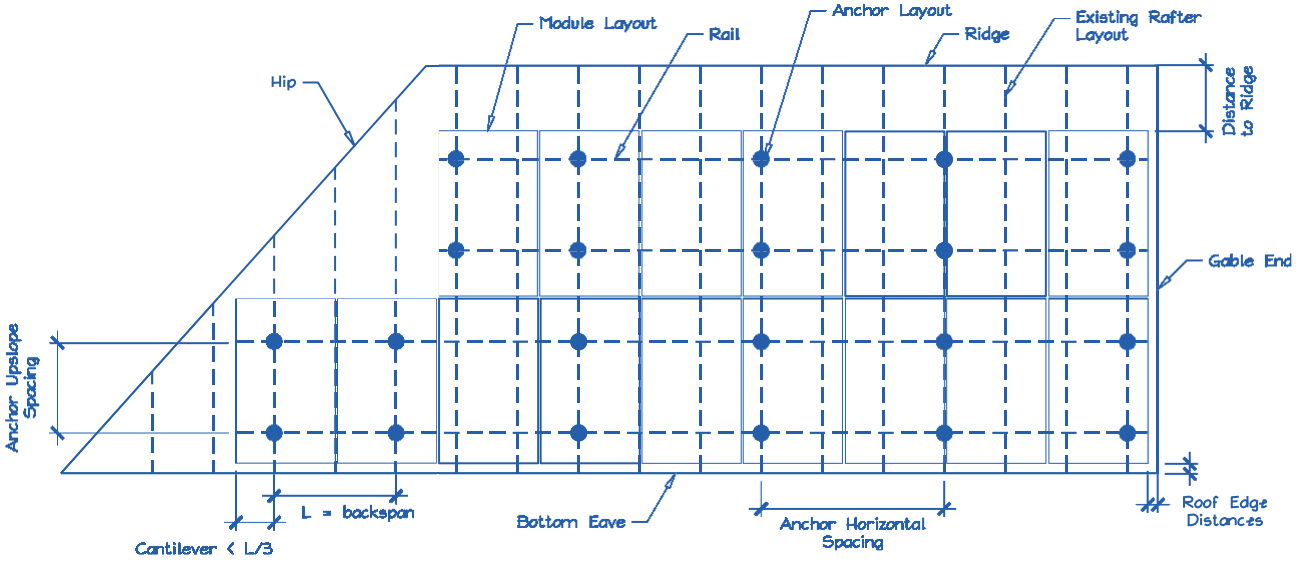

**Figure 1. Roof Visual Structural Review (Contractor’s Site Audit) of Existing Conditions.**
2. Does the roof structure appear structurally sound, without signs of alterations or significant structural deterioration or sagging, as illustrated in Figure 1?  Y  N